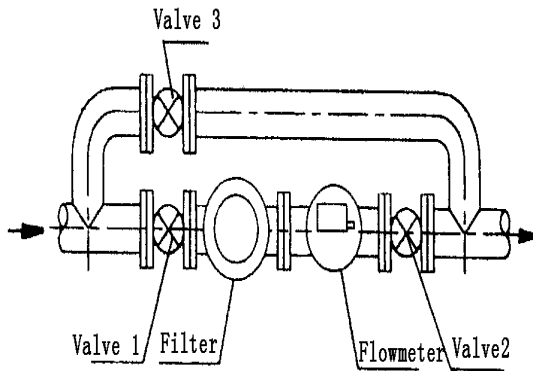

Fig.4 Mechanical Installation
1. Mechanical Installation See Fig.4
c. The flowmeter shall be installed vertically on the horizontal main pipeline. The bypass pipeline shall refer to Fig.4. The horizontal piping shall leave space for maintenance.
The flow integrating instrument adopts instant flow and accumulated flow switching display methods and provides three-wire system pulse remote transmission output, see Fig.4. All key operation must be done while the instrument is running(With flow input). Or the instrument will be in low-power dissipation sleeping status.